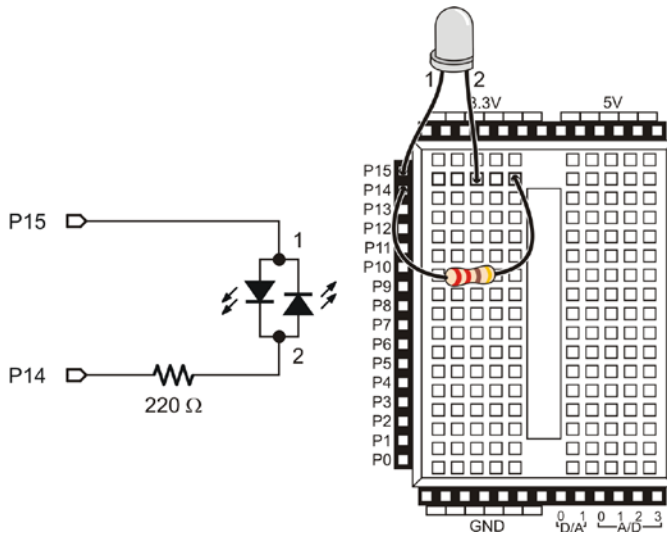

Figure 2-19
Controlling a bicolor LED with a microcontroller requires two I/O pins. After you have manually verified that the bicolor LED works using the manual test, you can connect the circuit to the Propeller as shown in Figure 2-19.
- Connect the bicolor LED circuit to the Propeller microcontroller as shown in Figure 2-19.